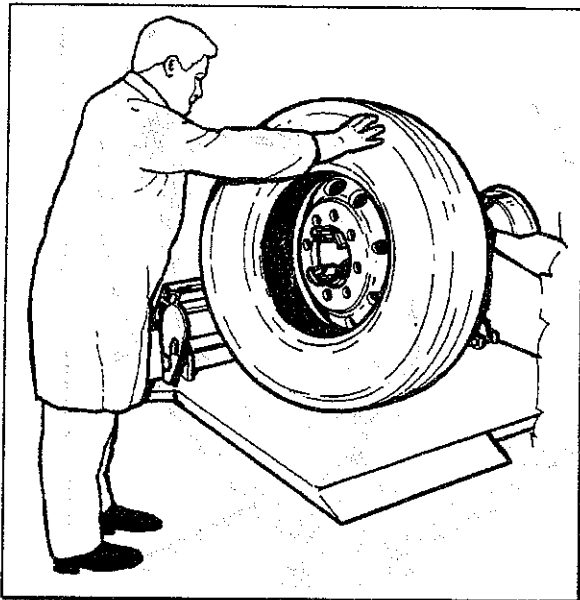

Fig.24
8. Move to the front of the tire and hold it with both hands in the last part of demounting operation to prevent the tire from falling or rolling away out of control (Fig.24).